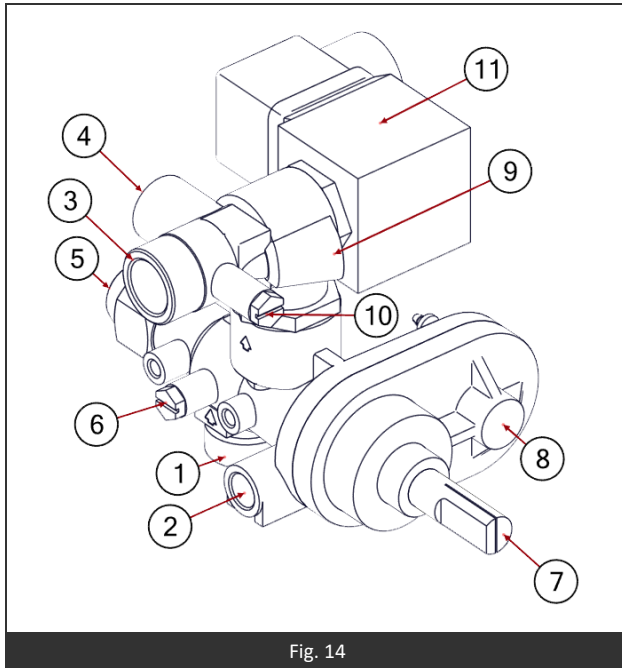

Fig. 14
- 5- Using a flat-blade screwdriver, adjust the regulator screw (Fig. 14 – Item 3).
- 7- Open the oven door, then, using a flat-blade screwdriver, adjust the low output by turning the regulator screw (Fig. 14 – Item 9).